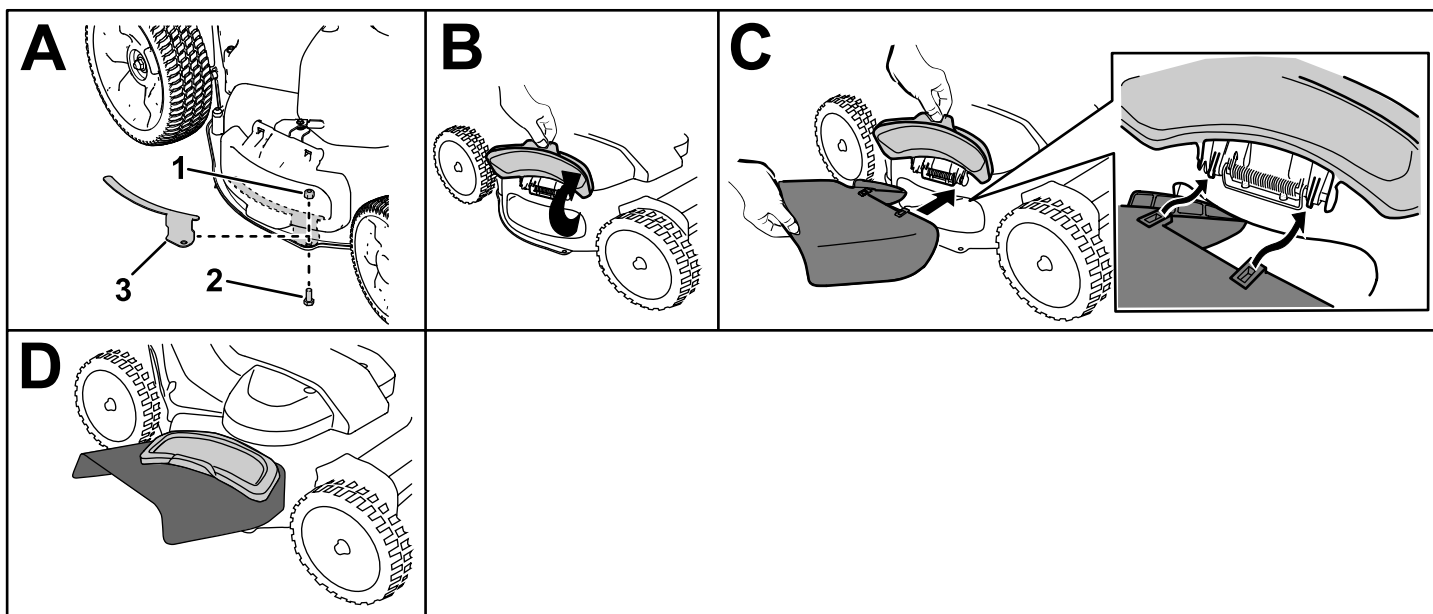

Figure 19
1. Remove the side-discharge deflector bracket and fasteners (A of Figure 19).
2. Lift open the side-discharge deflector (B of Figure 19).
3. Install the side-discharge chute and close the deflector onto the chute (C and D of Figure 19).
**Important:** Install the deflector bracket when not using the side-discharge chute (A of Figure 19).